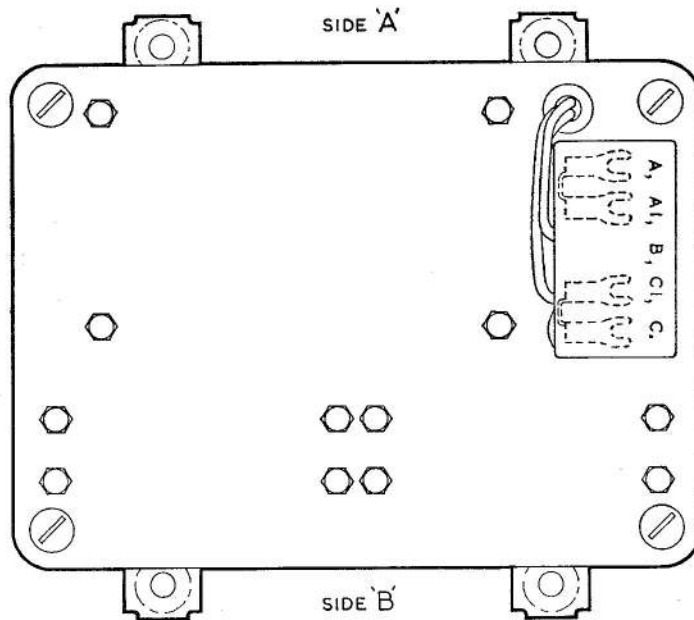

Fig. 1. Typical phase correction unit
2. A typical unit is illustrated in fig. 1. It comprises two inductors and an  $8.3 \mu\text{F}$  ( $\pm 10$  per cent) capacitor suitably interconnected and mounted within an aluminium case. The case has two mounting flanges and a removable cover. A five-way terminal block is mounted on the case.